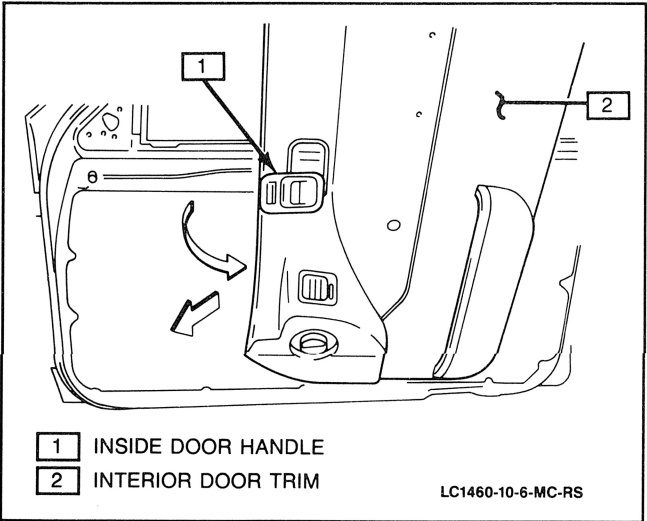

Figure 3 Removing Door Trim
- Rotate door trim and remove from door (Figure 3).